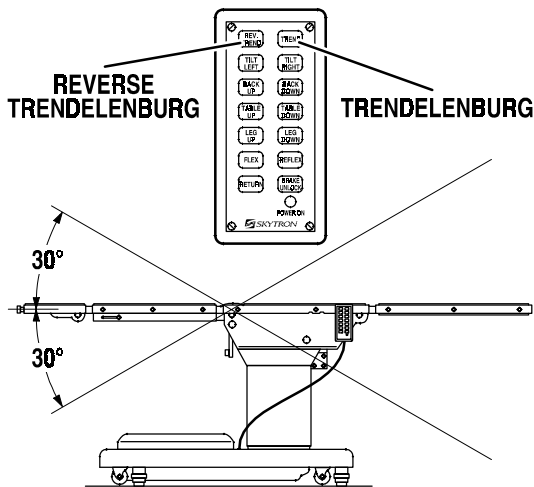

Figure 3-5. Trendelenburg Positioning
c. Trendelenburg. To place the surgical table in a trendelenburg (head down) position, press the TREND button (figure 3-5). Trendelenburg positioning of up to 30° may be obtained. To place the table in a reverse trendelenburg (head up) position, press the REV TREND button. Reverse Trendelenburg positioning of up to 30° may be obtained.